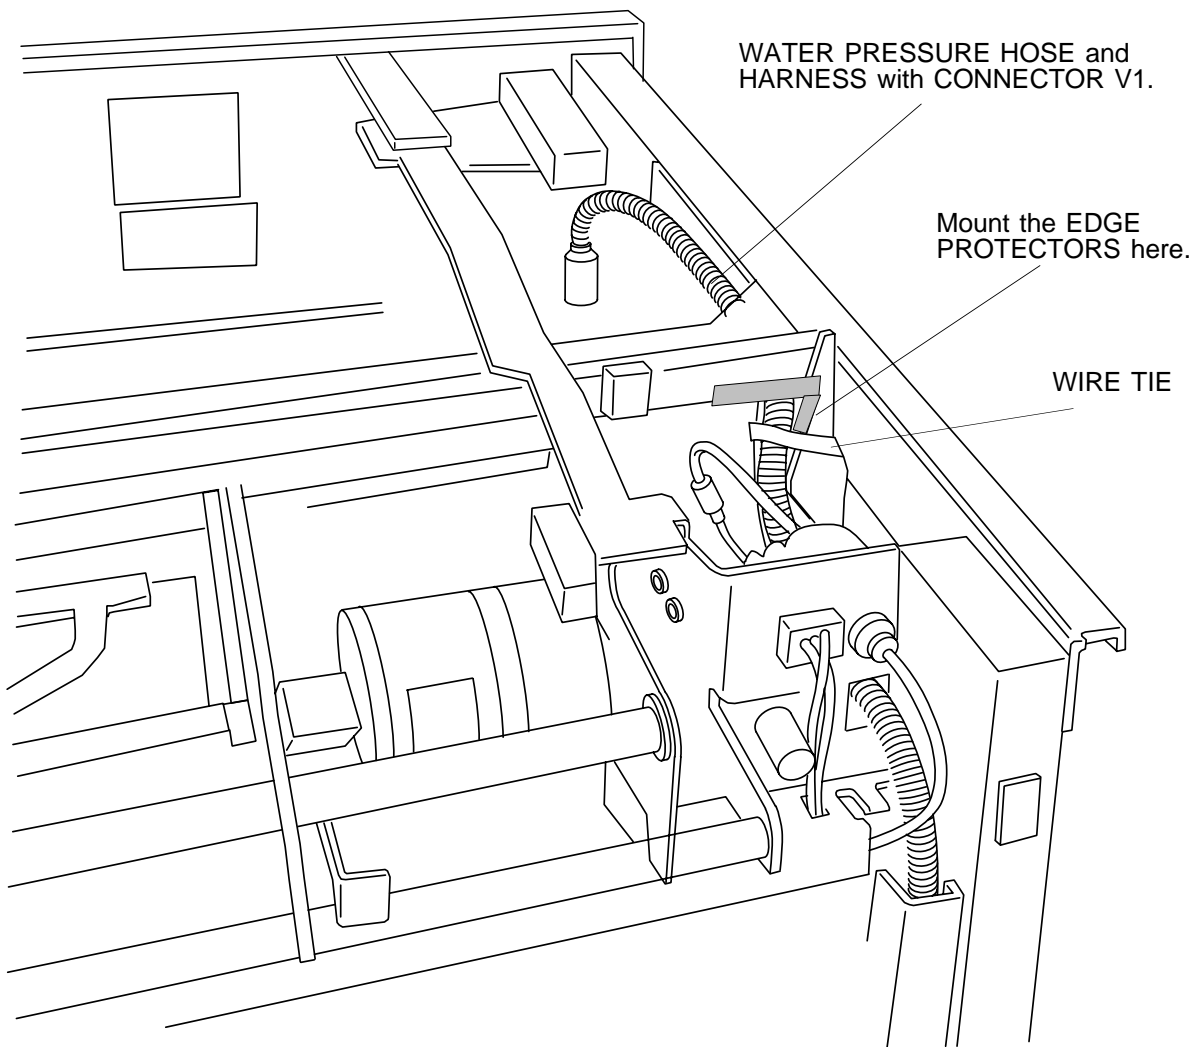

figure 2-13
- 31.** Route the WATER PRESSURE HOSE and the HARNESS (with CONNECTOR V1) along the FRAME to the rear and down through the CABLE DUCT. Mount the EDGE PROTECTORS to the FRAME. See figure 2-13 and 2-14